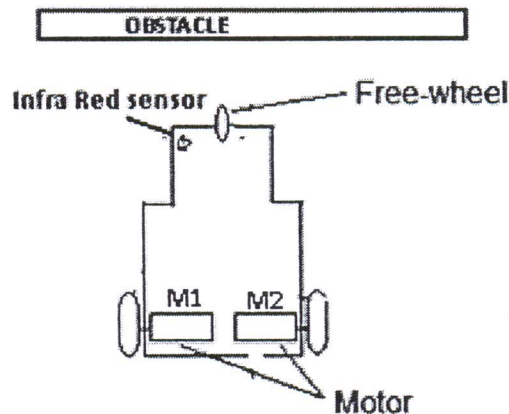

Figure 3: Swarm robot design
- (c) A swarm robot is programmed to move forward using 8051 microcontroller with XTAL=11.0592 MHz and two DC motors as shown in Figure 3 and 4. An Infra red sensor is located in front of robot chassis to detect the obstacle and it is connected to the interrupt of the microcontroller. If the sensor is triggered, then mobile robot will stop and turn left (for a certain degree). Then, the robot will move forward again. Write program to perform the robot movement as mention above.